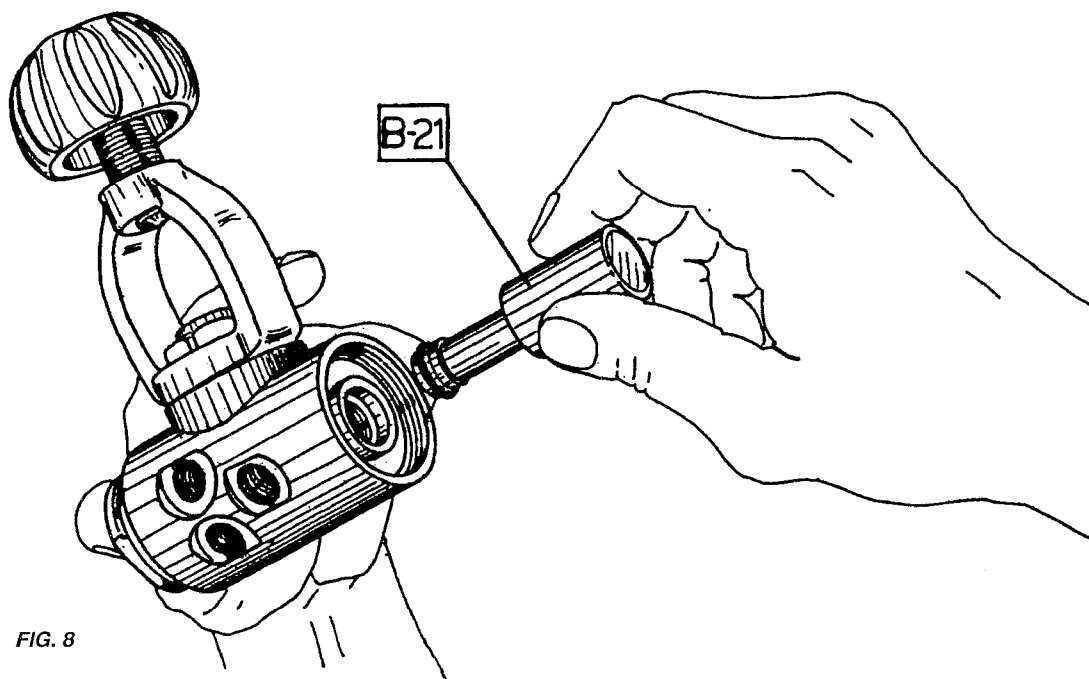

FIG. 8
- F. Place the sintered filter (56) into its housing on DIN connector (48) and fix it in place with spring (68).
- G. Place O-Ring (23) into the housing of DIN connector (48).
- H. Place the DIN connector wheel (49) and the spacer ring (79) on DIN connector (48).
- I. Place the O-ring (71) into the housing of DIN connector (48).
- J. Using the 6 mm. wrench (B-8), tighten the DIN connector (48) in the 1st stage body (1).
8. Reassemble the O-ring (74) on the poppet seat (75).
10. Exerting a slight pressure, push the poppet seat into position within the first stage body. (Fig. 8)